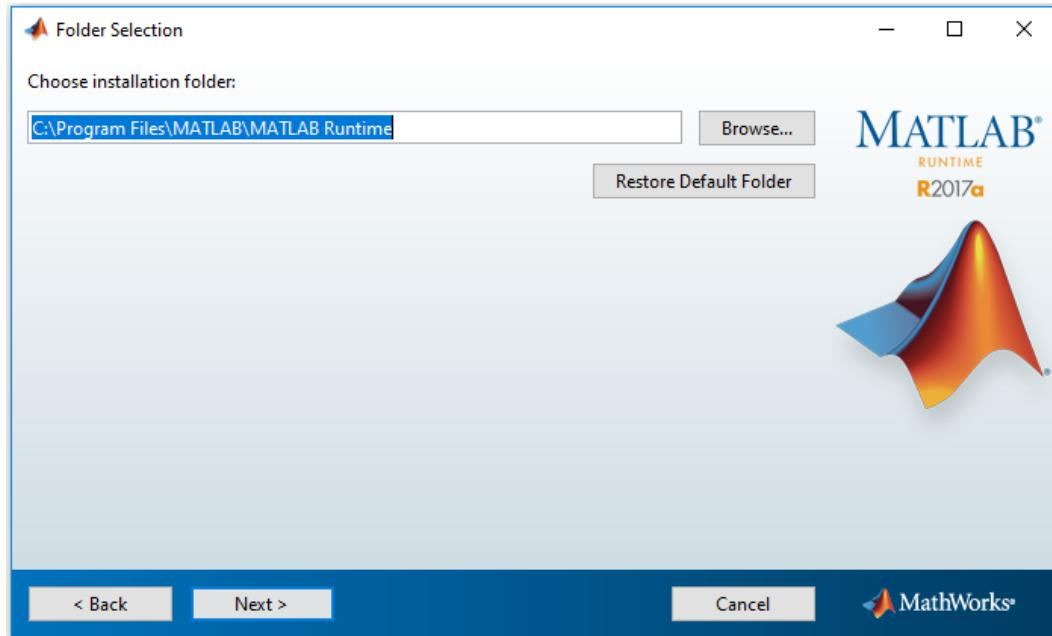
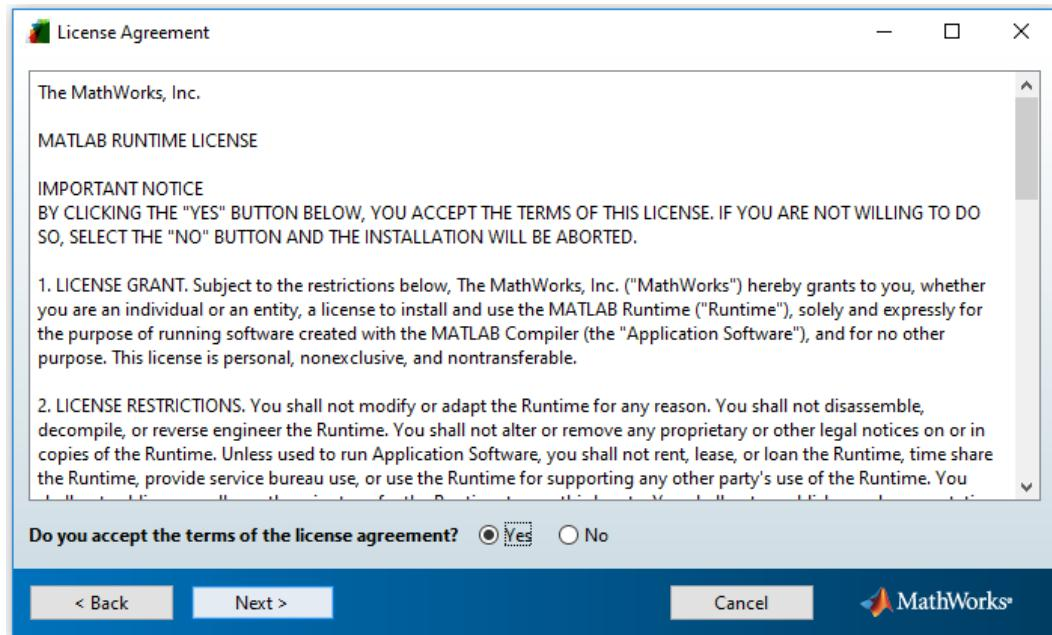

Figure 2.3
Figure 2.4
3. On the next window, user will be asked for MATLAB Runtime installation folder location. It is advised to keep the default folder (Figure 2.3). The license agreement that will appear on the next screen must be accepted to be able to install MATLAB® Compiler Runtime (Figure 2.4).